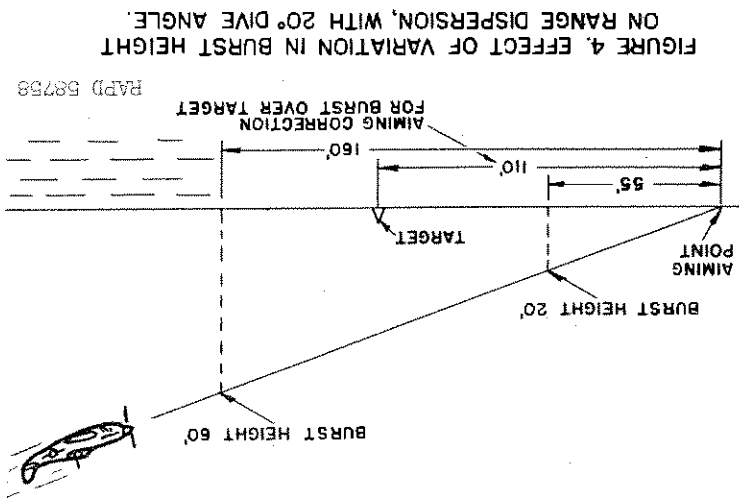
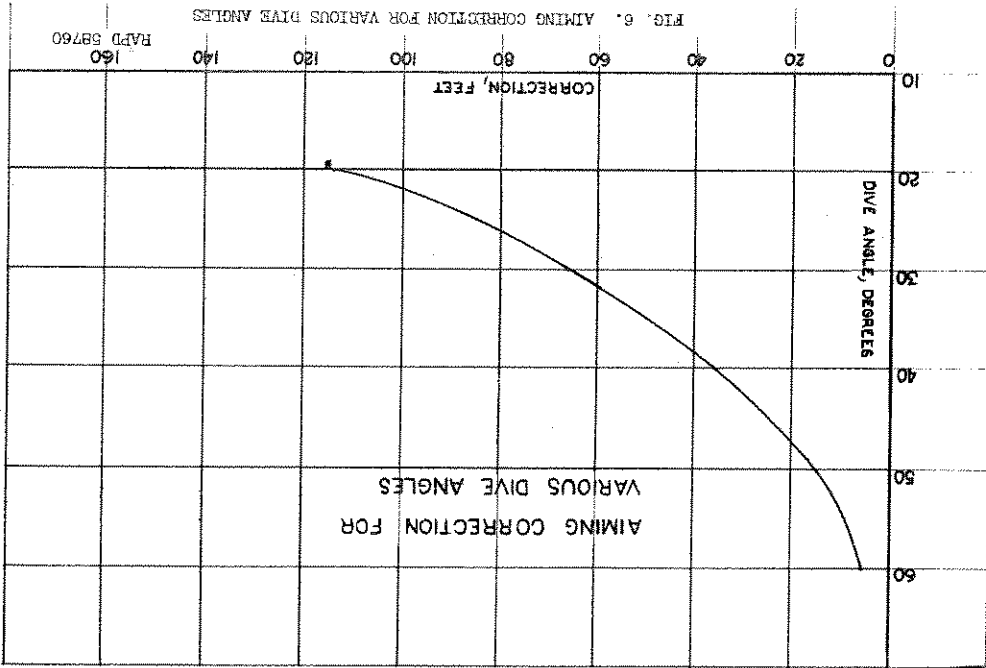

FIGURE 4. EFFECT OF VARIATION IN BURST HEIGHT ON RANGE DISPERSION, WITH 20° DIVE ANGLE.
FIG. 6. AIMING CORRECTION FOR VARIOUS DIVE ANGLES
(3) Terrain irregularities, such as trees, crests, streams, and material objects will normally cause a fuze function at slightly greater heights than would occur over uniform terrain. Irregularities in terrain will cause unpredictable burst heights at low angles of approach.
d. Range dispersion - Figures 4 and 5 illustrate the manner in which burst height and approach angle affect range dispersion. Dispersion is small at approach angles greater than 30 degrees but increases greatly at angles below 30 degrees.
e. Leading the target - Leading the target is a method of aiming a rocket ahead of the target so that it is directly over the target when it functions (see Figs. 4, 5, and 6). The correct distance to lead a target (aiming correction), in order to place the most fragments on it is shown graphically in Figure 6.